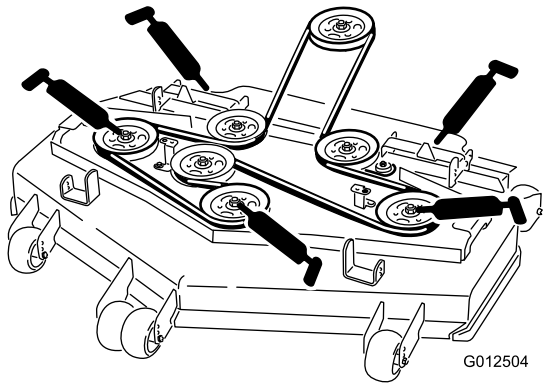

Figure 33
6. Grease the 3 spindle bearings until grease comes out (Figure 33).
7. Grease the fittings on the push arms (Figure 33).